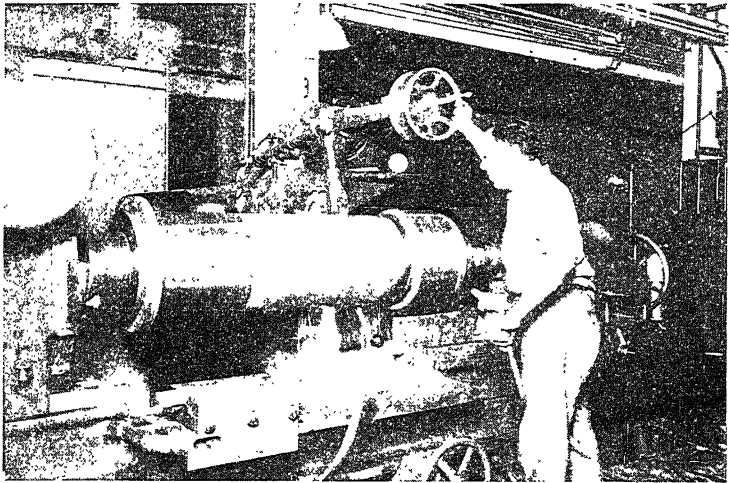

FIG. 7.—Finishing a cylindrical surface in a 28- by 120-in. hydraulic drive grinding machine. (*Courtesy of Landis Tool Company.*)
*The Grinding Machine.*—The grinding machine (Fig. 7) is a machine tool in which an abrasive wheel is used as a cutting tool to obtain a very high degree of accuracy and a smooth finish on metal parts, including soft and hardened steel. A